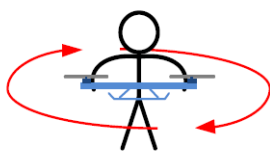

Fig.1
3. (Fig.1) Hold your Multi-rotor horizontal and rotate it around the gravitational force line (about 360o) until the LED changes to constant green, and then go to the next step.